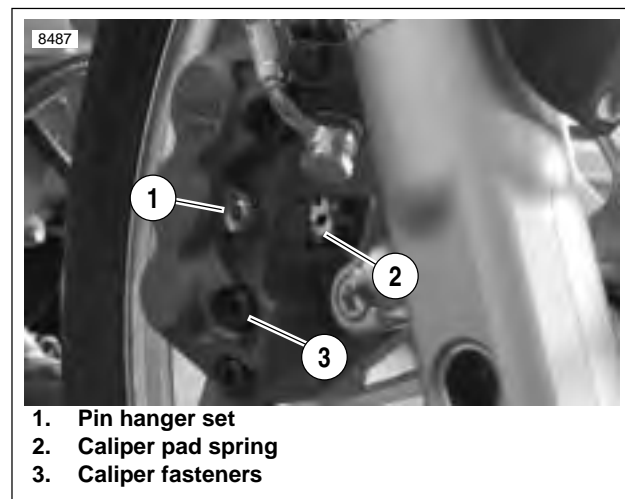

Figure 2-41. Pad Spring (Typical)
1. See Figure 2-41. Remove pin hanger set (1), caliper pad spring (2) and brake pads.
2. Split caliper by removing caliper fasteners (3).